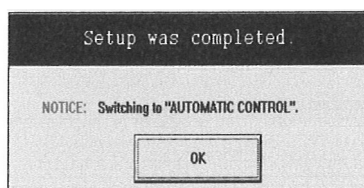

Fig.25
- ⑥ At a message box as shown in fig. 25, clicking on "OK" button completes the setup.